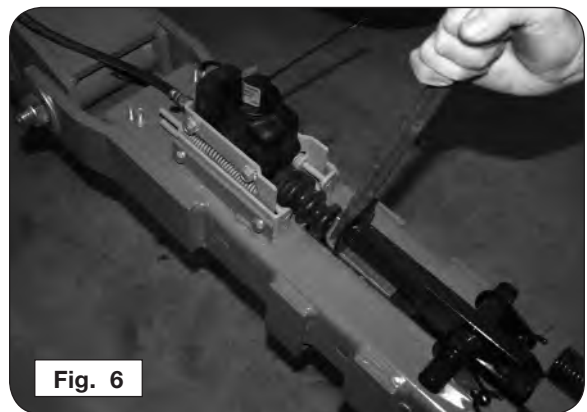

Fig. 6
4. While tire is spinning, slowly apply and hold pressure to the master cylinder (Fig. 6). While holding pressure to the master cylinder, re-tighten anchor pin nut to 200-220 ft.-lbs (Fig. 7). This should center the brake shoe assembly within the brake drum.